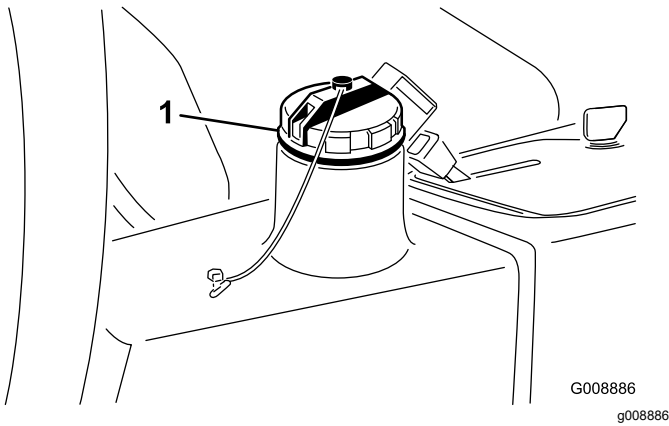

Figure 30
2. Clean the area around the filler neck and cap of the hydraulic tank (Figure 30). Remove the cap.